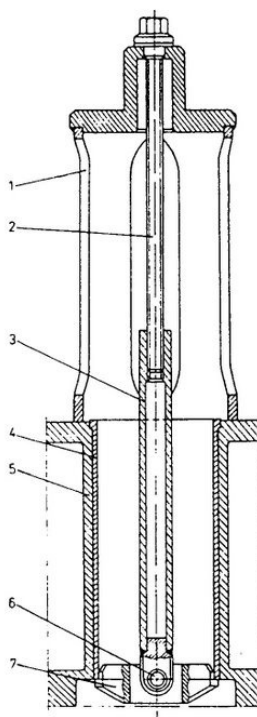

Fig. 16. Device for pressing cylinder liners
- Extract liners with a press. Extracting force should be applied from side of crankshaft. Use a special device shown in Fig. 16.